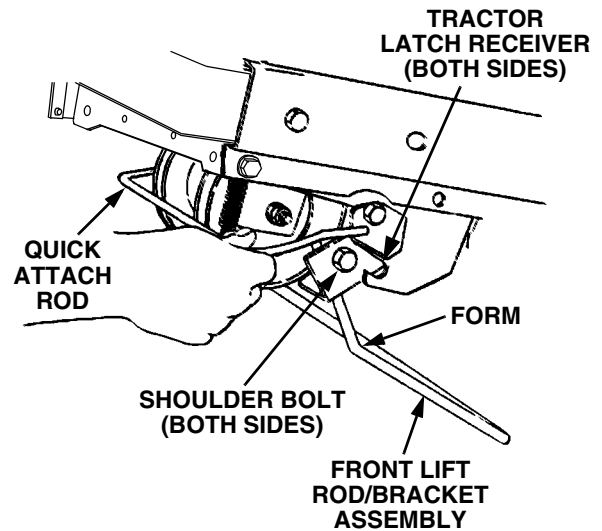

Figure 2-4
5. Refer to Figure 2-4 to ensure the correct orientation of the front lift rod/bracket assembly [the form (bend) in sides of rod point downward]. From the front of the tractor, push downward and hold the tractor quick-attach rod. Slide the shoulder bolts on each side of the front lift rod/